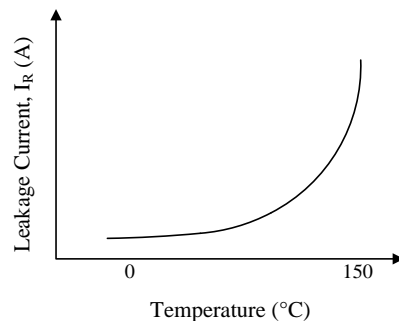

Figure 6-4 Reference temperature characteristics of SBD leakage current
- The temperature detection uses the temperature characteristics of the leakage current for SBD, which increases as the temperature rises as shown in Figure 6-4.